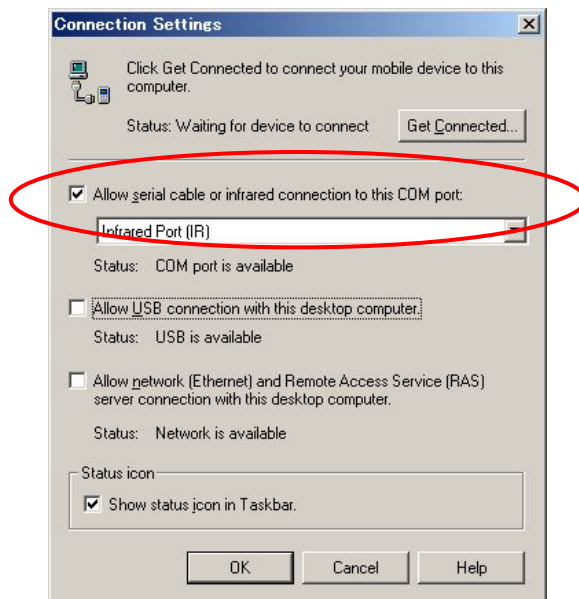

Figure 5.5
3. On the PC, make sure **Allow serial cable or infrared connection to this COM port** has been set effect and **Infrared Port [IR]** is chosen in the pull-down menu box (see Figure 5.5).